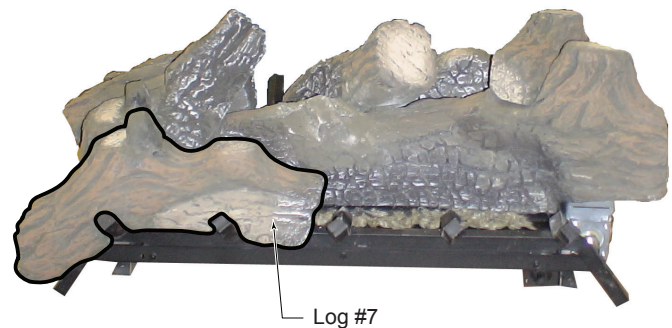

Figure 7 - Place Log #7
- Place log #7 on left two (2) grate tines by aligning the 'V' notch in log with grate tines. Make sure groove on bottom of log is firmly seated on grate bar. *Figure 7*